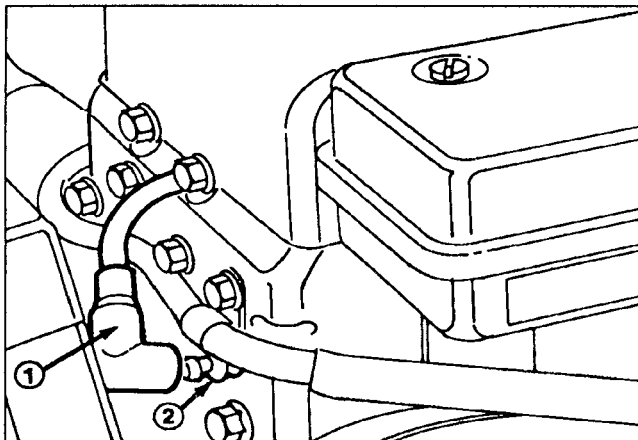

Figure 11
To prevent accidental starting of the engine, while performing maintenance, shut engine off and remove key from ignition switch. Also, pull wire off spark plug (Fig. 11). Make sure wire does not contact plug accidentally.
1. Remove wire from spark plug (Fig. 11).